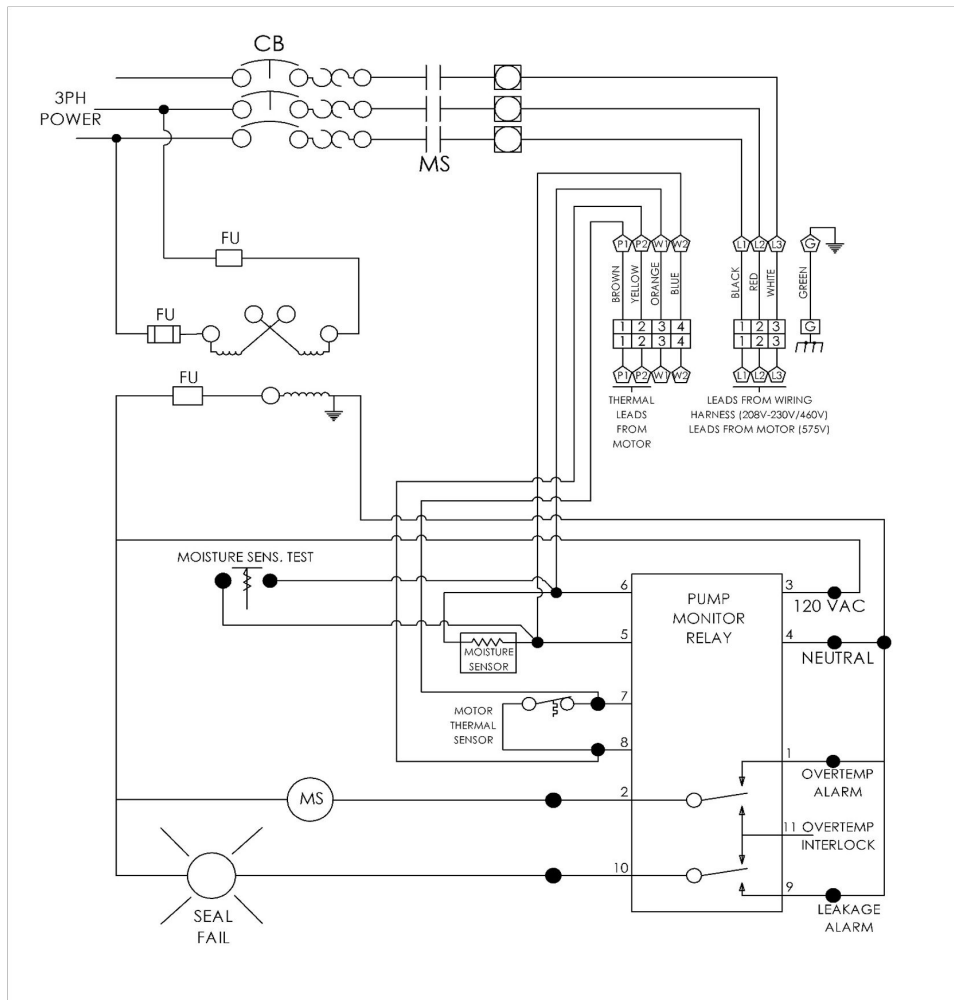

Figure 7
A manual momentary start switch is required to prevent the automatic restarting of the motor when the thermostat resets, refer to Figure 7.
- b. A temperature sensing circuit (See Fig. 7)
- c. A moisture detection circuit with continuity test circuit (See Fig. 7)